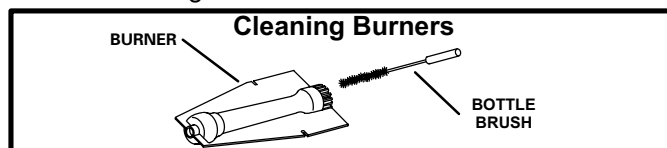

FIGURE 27
- 5 - Clean the inside of each burner with a bottle brush as shown in figure 27.